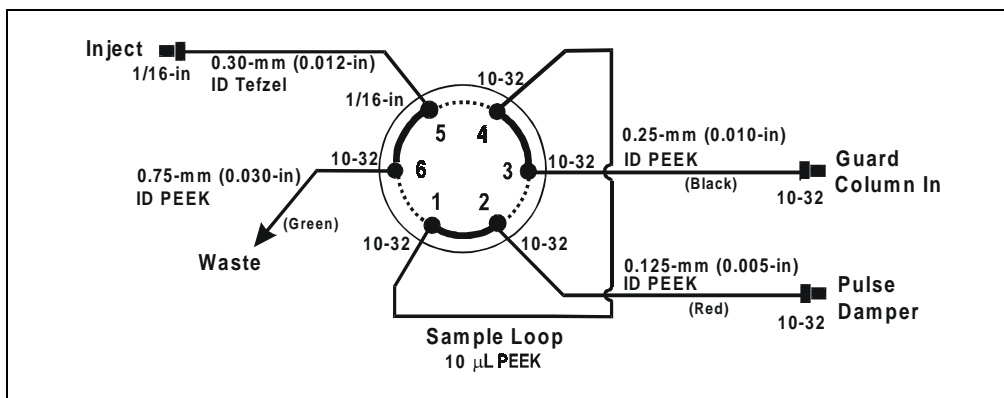

Figure 5-1. Injection Valve Plumbing
Figure 5-1 shows the injection valve connections. The injection valve is plumbed at the factory with all tubing and fittings required for connections to the pump, injection port, and column. A 10 μ L PEEK sample loop (P/N 042857) is installed between ports 1 and 4. Always replace the pre-installed 10 μ L loop with another of the same size.
3. Disconnect the sample loop from ports 1 and 4 on the injection valve (see Figure 5-1).